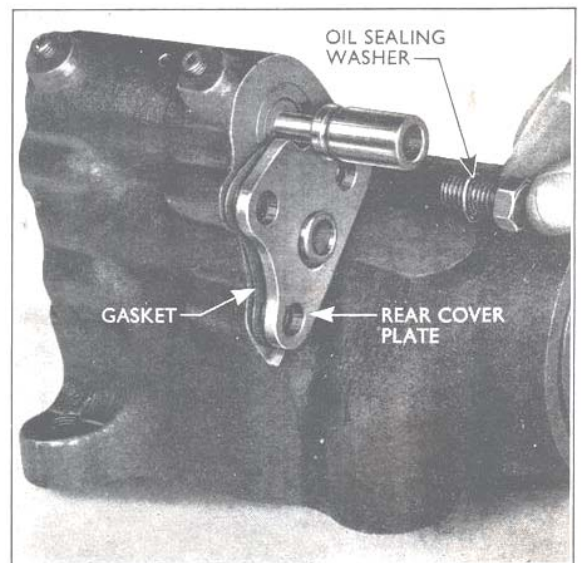

Fig. 20
6. Remove the three set-screws securing the rear cover plate to the lift cylinder and remove the plate and gasket. It should be noted that a copper sealing washer is fitted under the head of the screw located between the control valve and the lift cylinder. (See Fig. 20). This particular screw fits into the threaded end of a longitudinal passage through which oil is exhausted from the ram cylinder. (Also in communication with this passage is a small vertical drilling located close to the rear blanking plug at the bottom of the cylinder.)
**NOTE.**—Remember that the set-screw located between the control valve and the ram cylinder fits into the end of a longitudinal exhaust passage in the cylinder. A copper sealing washer must therefore be fitted under the head of this particular screw to obviate oil leaks from the passage. (See Fig. 20.)